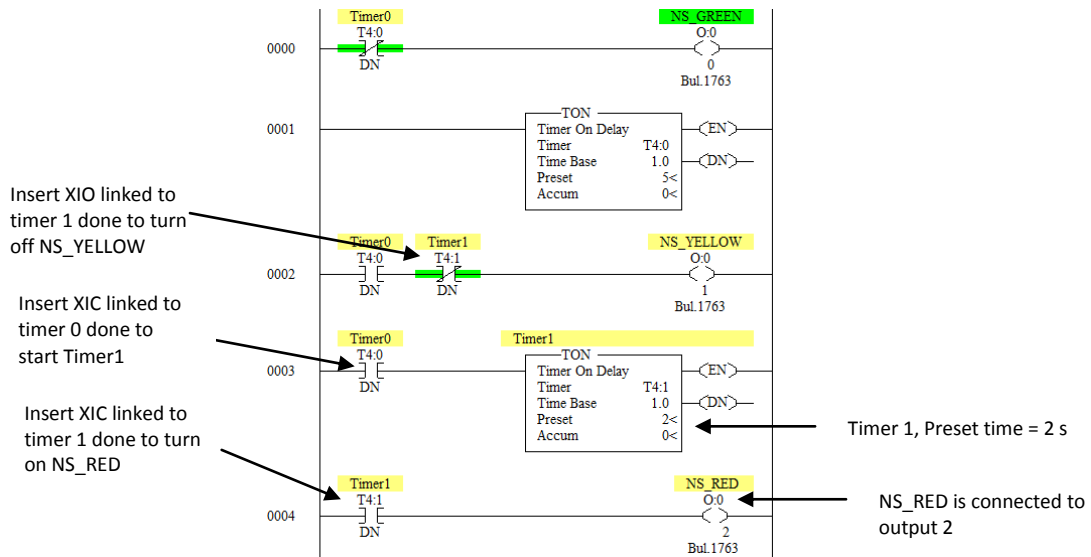

Figure 8: Timer 1 is started after timer 0 is done. After timer 1 is done it turns off the NS_YELLOW and turns on NS_RED
16. End of timer 0 should start timer 1. At the end of timer 1, NS YELLOW is turned OFF and NS_RED is turned ON. Since timer 1 starts after timer 0 is done, a XIC switch inked to timer 0 to start timer 1 as in figure 8.